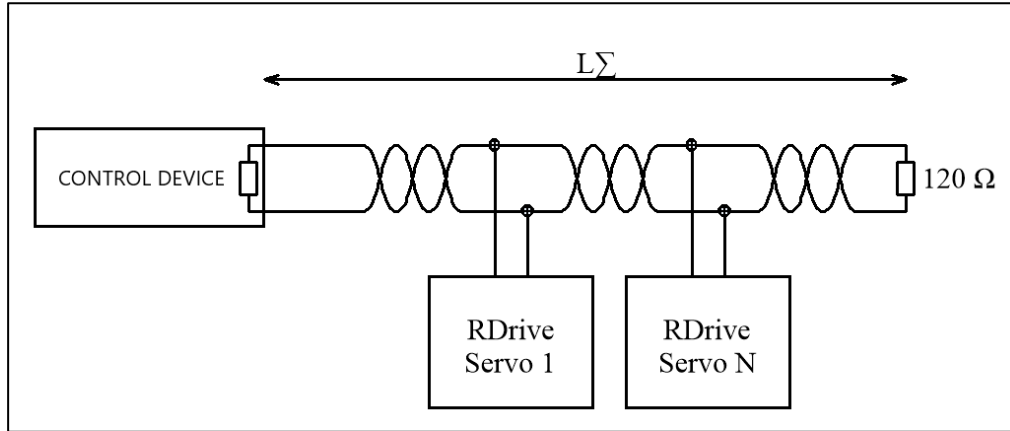

Figure 4-1: CAN connection to control servos based on CANOpen
- In case servo control is based on the CANOpen protocol stack, provide a CAN bus connection of the configuration as shown in **Figure 4-1**.
The connection is in accordance with the diagram as shown in **Figure 4-1**. Connect the CAN cables on the RDrive input flange to the corresponding twisted pair wires: the brown one to CANHIGH, and the blue one — to CANLOW.
To enable control based on CANOpen, connect RDrive servo motors in accordance with **Figure 4-1**. For a detailed description of the CANOpen communication interface implemented for RDrive servos and related application cases (including servo initialization), refer to “CANOpen Communication Guide.”